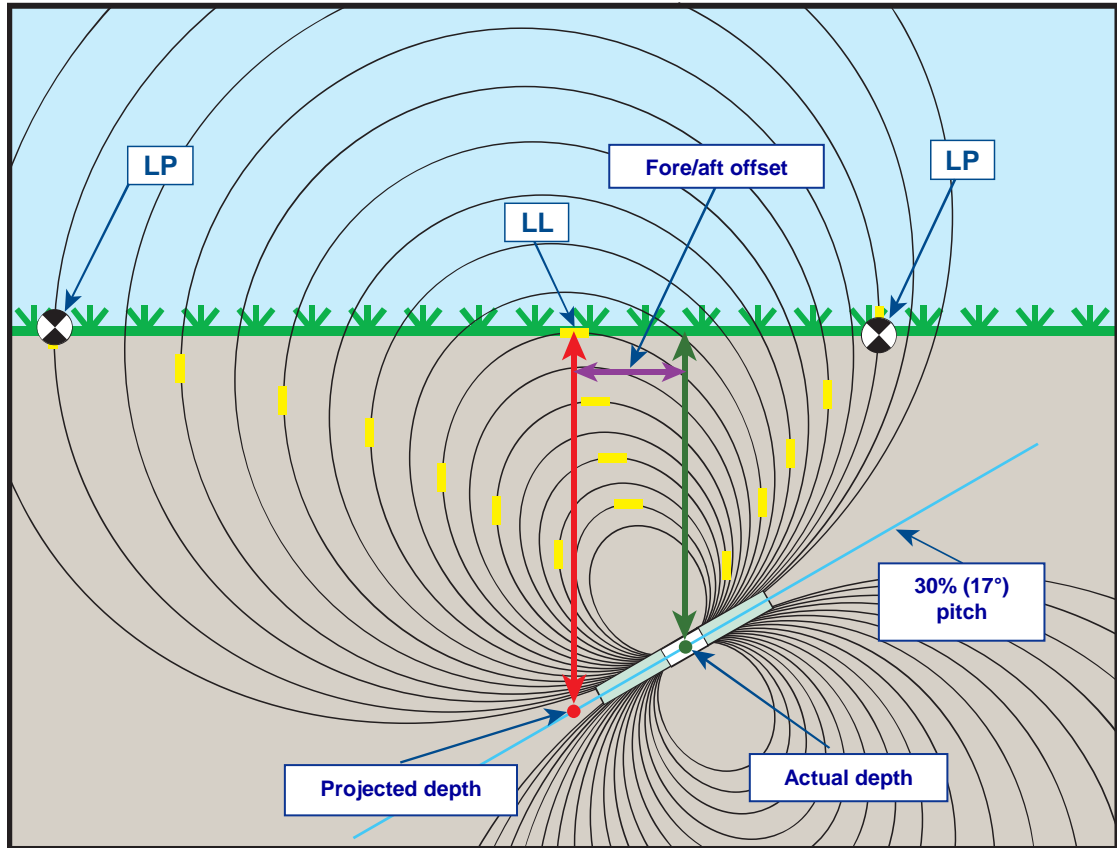

Figure B2. Projected Depth vs. Actual Depth and Fore/Aft Offset When Steep and Deep
The projected depth and fore/aft offset, shown in Figure B2, must be accounted for when the transmitter is steep and/or deep. See the tables provided later in this appendix (Table B1 and Table B2) to determine the actual depth and fore/aft offset when you know the displayed (projected) depth and pitch of the transmitter.
Figure B2 shows a transmitter positioned in a drill string that is meant to illustrate drilling at either a positive or a negative pitch—the pitch is positive if you are drilling left to right, and it is negative if you are drilling right to left. The transmitter's signal field is also pitched at the same angle as the transmitter. The locate line (LL), which is where the depth measurement is taken, is the horizontal component of the transmitter's signal field flux lines. That is, the LL is found where the flux lines are horizontal, as illustrated with short horizontal yellow lines in the figure above.
The locate points (FLP and RLP) are also shown in Figure B2. These points are located at the vertical components of the signal field, as illustrated with short vertical yellow lines in the figure above. Note that the locate points are not the same distance from the LL when the transmitter is pitched. Again, this situation requires compensation for the projected depth and the fore/aft offset.